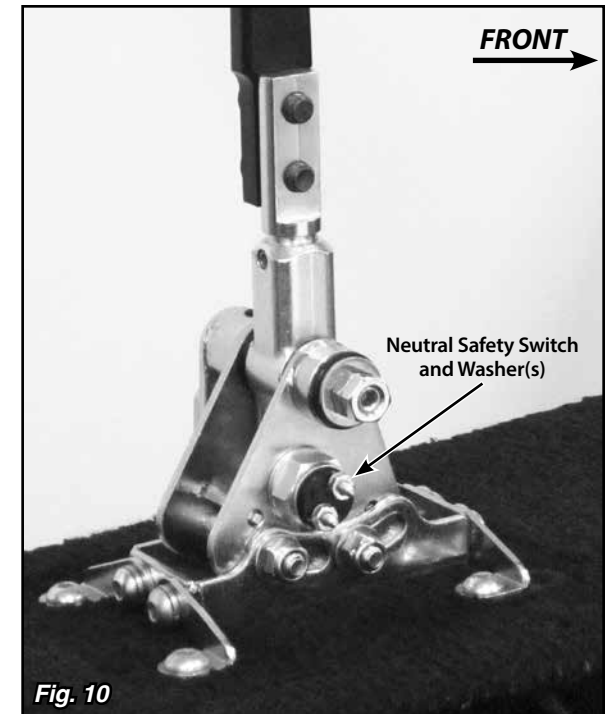

Fig. 10
**NOTE:** The Neutral Safety Switch will have one or more washers under it. The washer(s) are used to adjust the depth of the neutral safety switch for proper operation. If the neutral safety switch is ever removed for any reason, you **MUST** reinstall the same washer(s) with the neutral safety switch to maintain the adjustment. **Fig. 10**
- **If there are (2) connections for a neutral safety switch**, run a #12 (or heavier) stranded wire from these terminals in your fuse panel to the (2) terminals on the neutral safety switch. That completes the Neutral Safety Switch wiring.